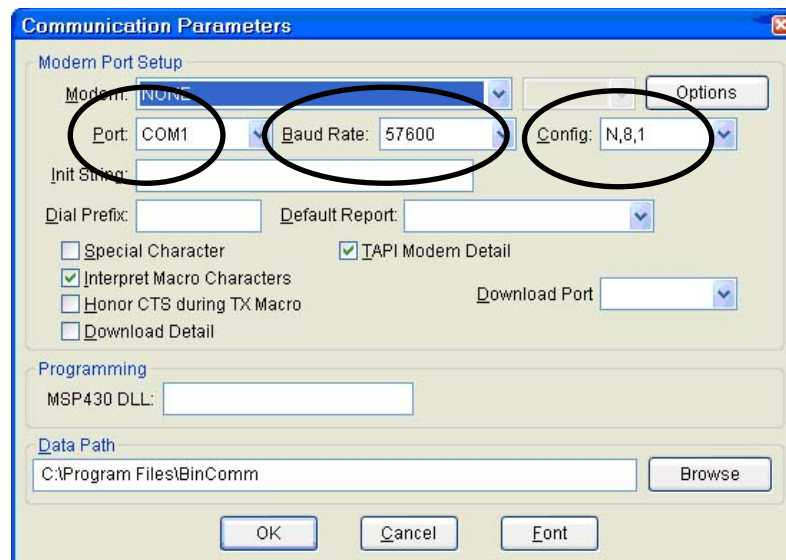

Fig. 9.1: Verify Communication Configuration
- 9.2.3 Verify the Monitor is communicating with the appropriate COM Port, the **Baud Rate** set to **57600** and **Config N,8,1**. Fig. 9.1 (See Section 8.3, **Configure COM Port** for additional details)